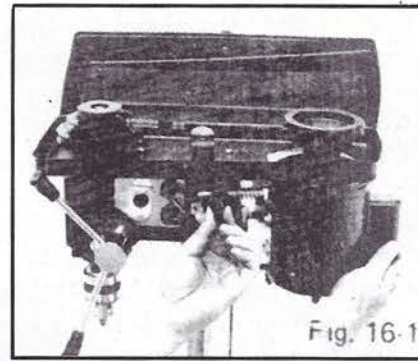

Fig. 16-1
3. Push motor backward until moderate belt tension is acquired. Then retighten the lock handle again. Fig. 16-1 or Fig. 16-2.